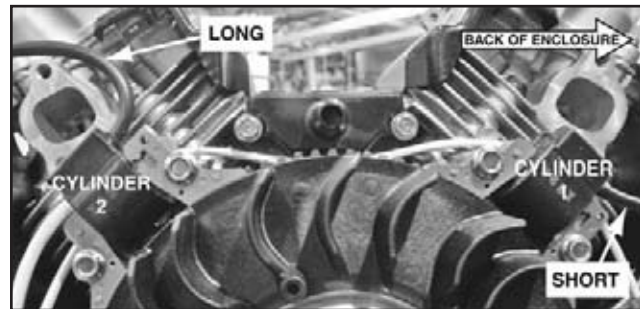

Figure 35.
4. When installing new magnetos there will be one with a short plug wire and one with a longer plug wire (Figure 35).